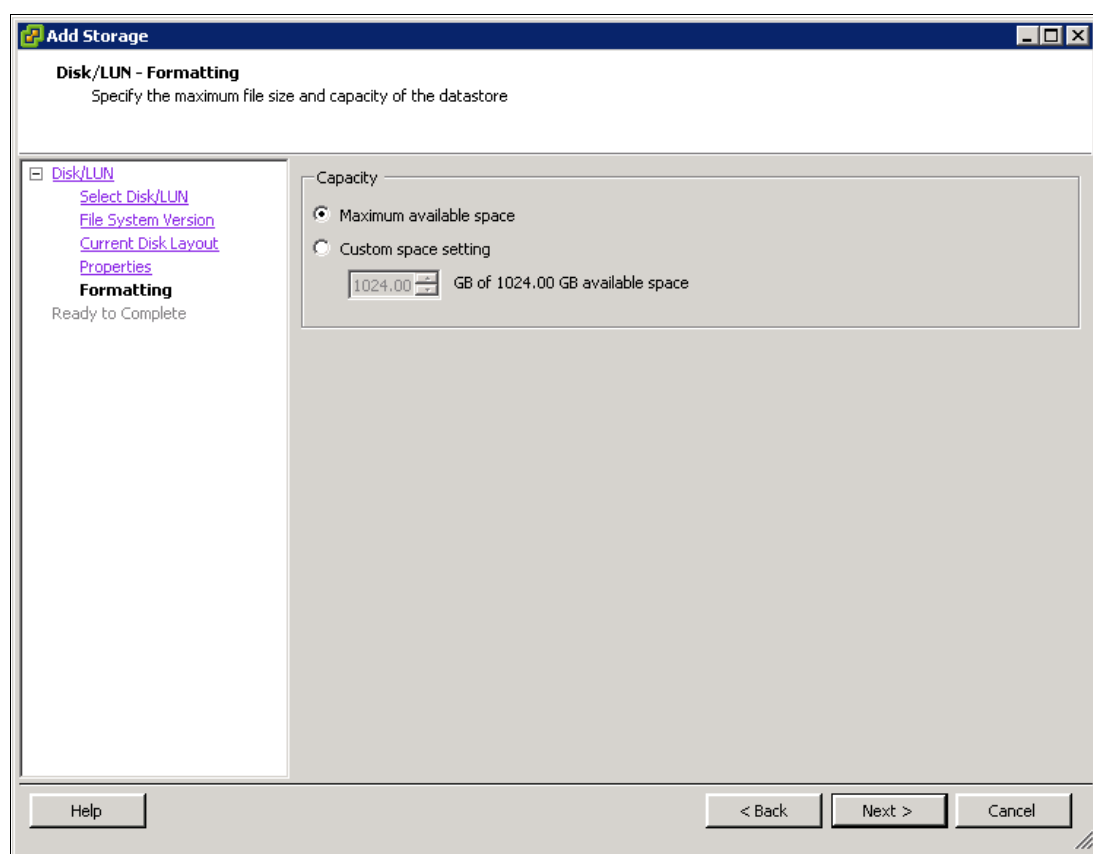

Figure 5-90 Capacity
12. Select the Maximum available space and click **Next**, as shown in Figure 5-90.